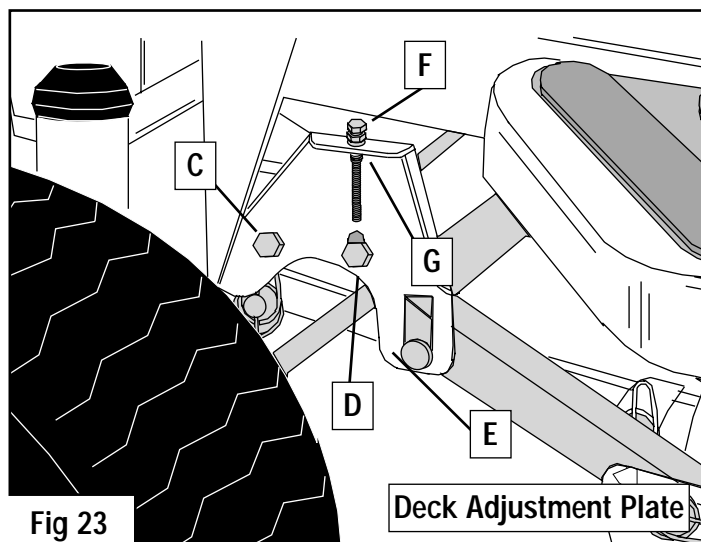

Fig 23
1. Having levelled the rear of the Deck, check if the front is level. If not, you will need to find the Deck Adjustment Plate (fig 23) which is forward of the Cutter Deck near the front (nearside) wheel.
2. Before making adjustments, loosen the two sets of nuts and bolts (C & D) securing the Deck Levelling Bracket (E) using a 13mm spanner and 13mm socket.
3. Then, using a 13mm spanner, loosen (upper) locknut (F).
4. Now adjust the height by using a ratchet or spanner to turn the Nyloc nut (G) clockwise (up) to raise the Deck or anti-clockwise (down) to lower it.